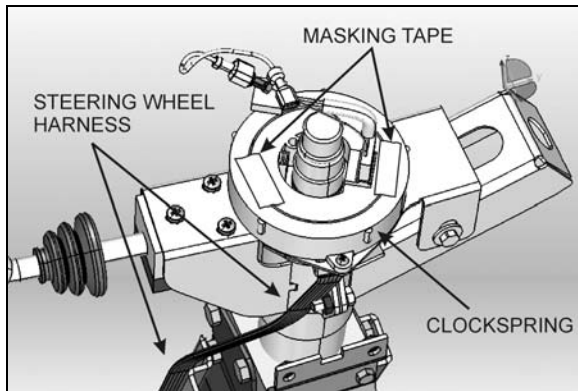

FIGURE 11: LOCKING THE CLOCKSPRING IN PLACE
7. Once the steering wheel is removed, it is important to block any rotating movement of the clockspring in order to prevent it from losing its neutral position. Use two pieces of masking tape to lock it in place (Figure 11).